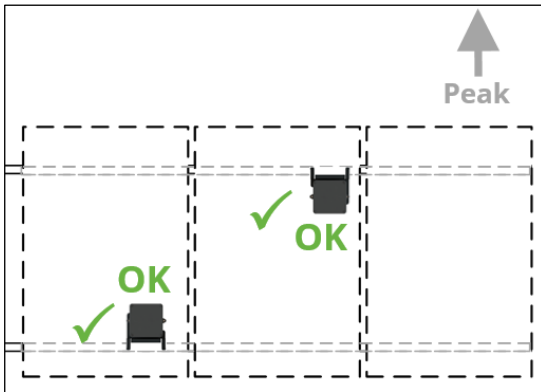

Fig. A1
1. Determine the location for the RMJ. You can mount the RMJ “above” or “below” the rail (Fig. A1).